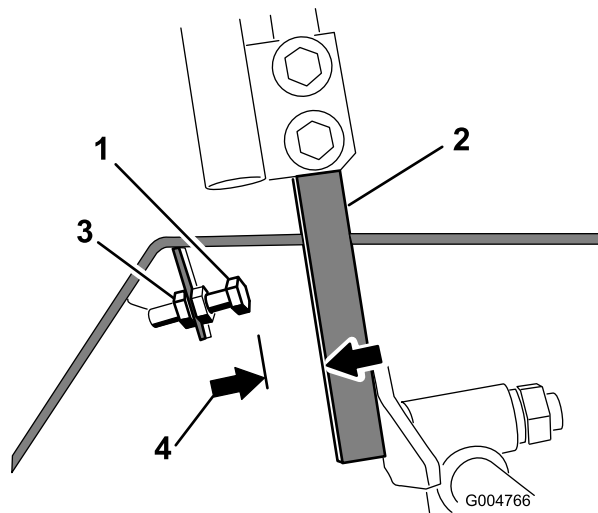

Figure 53
4. Loosen the jam nut on the stop bolt for a control lever (Figure 53).